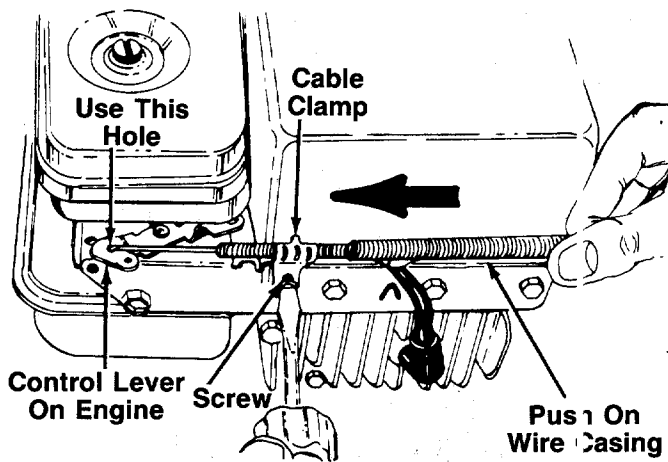

FIGURE 6B.—Models 442R & 452R
2. The throttle control cable is attached to the upper handle. Route the throttle control cable under the lower handle and inside the handle mounting bracket. Hook the "Z" end of the throttle control cable into the arm on the control lever on the engine which has two holes, using the **outside** hole as shown in figure 6B.
3. Remove the screw on the cable clamp on the engine shown in figure 6B. Slip the control casing under the clamp. Replace the screw, but do not tighten (cable must still move freely beneath the clamp).
4. Slide the control lever on the engine as far toward the **outside** of the engine as it will go. Push the wire casing on the throttle control cable toward the control lever on the engine as shown in figure 6B as you tighten the screw on the cable clamp to secure the cable in this position.